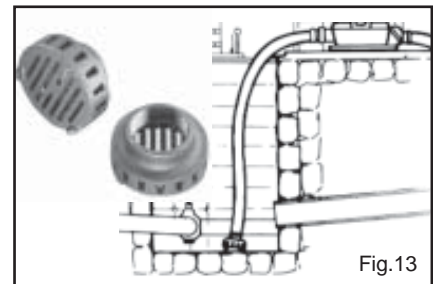

Fig.13
- **USING A STRAINER ON THE INLET** - Like any vacuum used to pick up solid matter, if the solid material is too large it will block the inlet or get stuck in the suction line. Also a suction hose can suck up on a flat surface cutting off all flow. Using an Edson strainer will prevent these conditions. Order Edson Shatteredproof Bronze Strainers 111BR -150 for 1 1/2". Fig.13